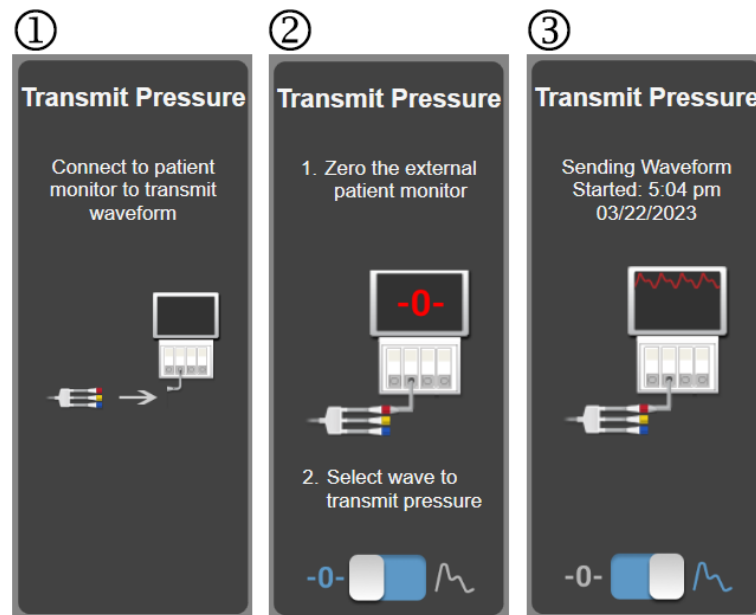

Figure 11-10: Transmit arterial pressure waveform to patient monitor
4. Zero patient monitor and confirm 0 mmHg is displayed. See (2) in Figure 11-10 on page 220. Refer to the patient monitor instructions for use.
5. Toggle to the **Transmit Waveform** icon  to begin pressure signal output to the patient monitor. See (3) in Figure 11-10 on page 220.
6. A "**Sending Waveform Started:**" message with the timestamp is displayed when the live waveform is being transmitted to the connected patient monitor. See (3) in Figure 11-10 on page 220.